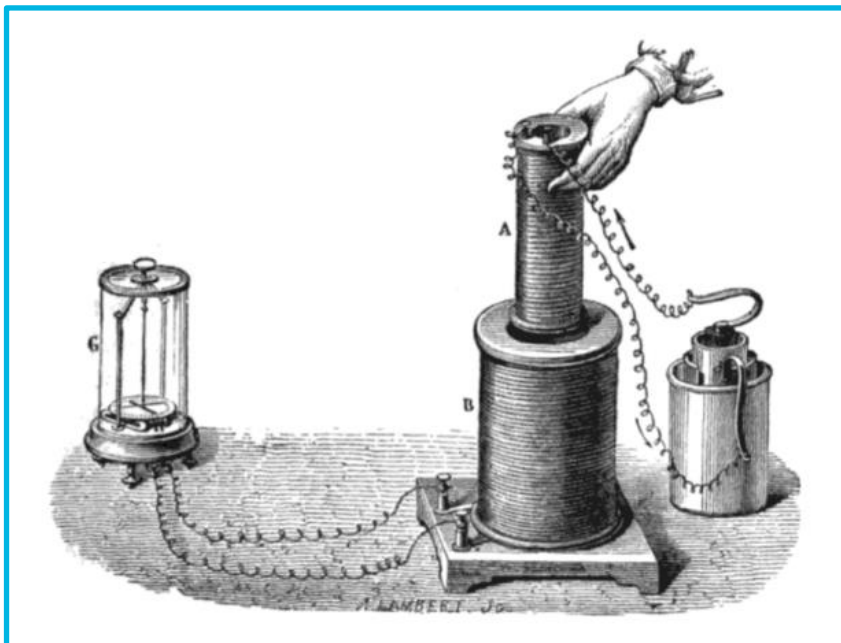
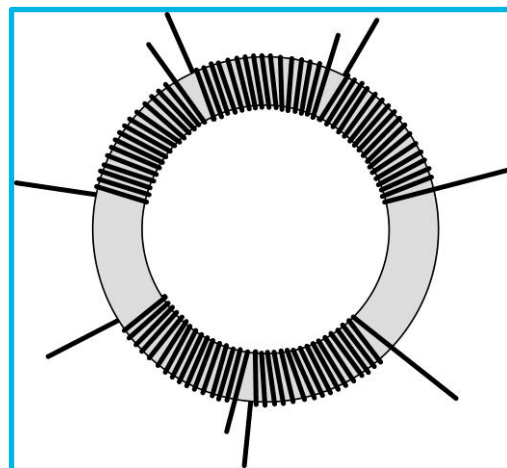
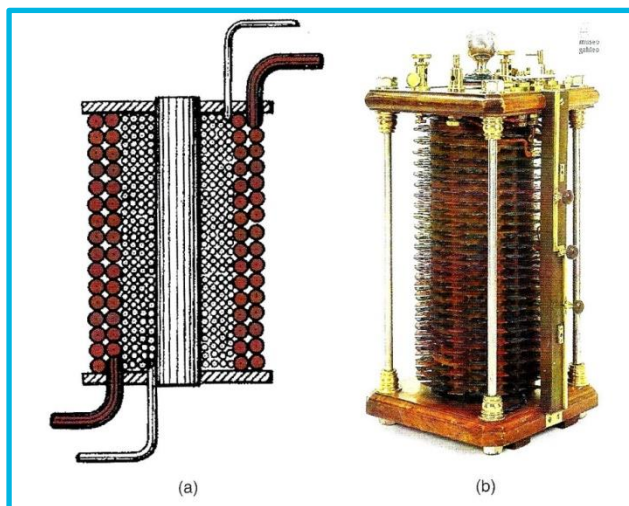

Fig. 2
Fig. 3
Fig. 7
This effect was first discovered by Michael Faraday in 1830. His original equipment seems to have been lost, but the engraving in Figure 2 below was published in a book entitled Magnetism & Electricity by a Professor Poyser in 1893. Note the following components:
Figure 2 was extracted from the present author's personal copy of a book by a Prof. Poyser of Trinity College, Dublin, published in 1893. In the normal course of events, one does not quote extensively from such material, but in this particular instance it was thought that the historical interest of the conjunction of Dr. Poyser's book with the notes written by Michael Faraday, should override protocol. The title of the book is *Magnetism and Electricity* and was published by Dr. Poyser, in 1893, 26 years after the death of Faraday. As will be seen from the quotation below, Poyser stated clearly that the first transformer was invented by Faraday in 1831, a year after his experiment with electromagnetic induction shown in Figure 2. You will see from Figure 3 that Faraday made himself a "donut" of soft iron wire around which he wound two smaller coils of copper wire. However Faraday did not say how big was the central donut. But remember that when Poyser wrote his book, he was writing about cutting edge technology.
- ◆ The term “galvanometer needle” is not used today. Usually we speak of either a “Mirror galvanometer” or compass needle. From the sketch in Figure 2, it would appear that a compass needle was used.
The operation of a transformer is really quite simple, and is the reason why transformers are cheap, robust and efficient. In 1830, Michael Faraday discovered the fact that electricity could make magnetism, and that magnetism could make electricity. The two are inextricably connected. His apparatus is shown in Figure 2 above. It was probably one of the most important discoveries in the history of science, and one for which he acquired international fame. This demonstration proved that electricity can make magnetism and that magnetism can make electricity. The two are inextricably linked. The following year, 1831, Faraday carried his research a stage further, when he assembled the simple device shown in Figure 3, and the workings of which are described in the text from Dr. Poyser quoted above. This was in fact the original transformer, although whether or not Faraday actually called it a “transformer” is not clear. Indeed even the word “transformer” probably had not been invented at that time. But 50 years or so later, when alternating current generators first became available (Siemens of Germany), it became apparent to experimenters that applying a comparatively low alternating voltage to the “Low Voltage” winding of a “step-up transformer”, could produce significantly higher voltages in the other “High Voltage” winding, which in turn were ideally suited to long-distance transmission of electrical energy. Some of the early experimenters in this field were Gaulard and Gibbs in Europe, Ferranti in Britain, together with Stanley and Westinghouse in the United States, all in the period 1880 - 1885. In fact when Dr. Poyser published his text book in 1893, he was writing about cutting edge technology.
machines, and they soon ran very hot. The solution, however, was fairly easy. Instead of using solid iron components, he hit on the notion of building them from layers of very thin steel, (known as "laminations"). Each lamination was coated with a very thin layer of insulating varnish. This was a very satisfactory solution which is still used today. Because each lamination was/is very thin, about 0.015" or 0.5 mm thick, the resistance was correspondingly high, and the voltage in each lamination was low, so the loss was reduced to a small fraction of the solid material. (See the hands-on demonstration at the end of this lesson). It is not known how Faraday made the "soft iron" core of his conceptual transformer shown in Figure 3, but probably he used multiple turns of uninsulated iron wire.
Figure 3 shows a sketch of the "conceptual" transformer developed by Michael Faraday in 1831. It is not known for sure, however, whether or not Faraday used the term "transformer", because in his day there were no AC power systems on which to use it. However, as time went by and an understanding of electric power systems developed, different people developed their own ideas of how their AC equipment should look. Figure 7 shows one such possibility. In 1884, a Swiss/American firm called Gaulard & Gibbs introduced their concept of how a distribution transformer should look. It was in fact a very early version of the modern unit shown in Figure 9. Refer to the cross section drawing on the left hand side of Figure 7. The soft iron core is the tall thin item standing vertically. The large number of small circles represent the multiple turns of small wire in the primary (HV) winding. The larger circles represent the larger diameter copper wire used in the secondary (LV) winding. The four items which look like pipes are actually the HV and LV pig-tails of the windings (somewhat over-drawn). These transformers apparently sold quite well for 4 - 5 years, but eventually were overtaken by better designs. One significant weakness evident in Figure 7 is the central iron core. It would seem that the designers had based their unit on their experience with bar magnets. In other words the magnetic flux would have to exit the core at the top and travel all the way down to the bottom through air. Thus the leakage flux would have been extremely high and the so called "Magnetic Efficiency" (author's term) would have been extremely low. In other words more